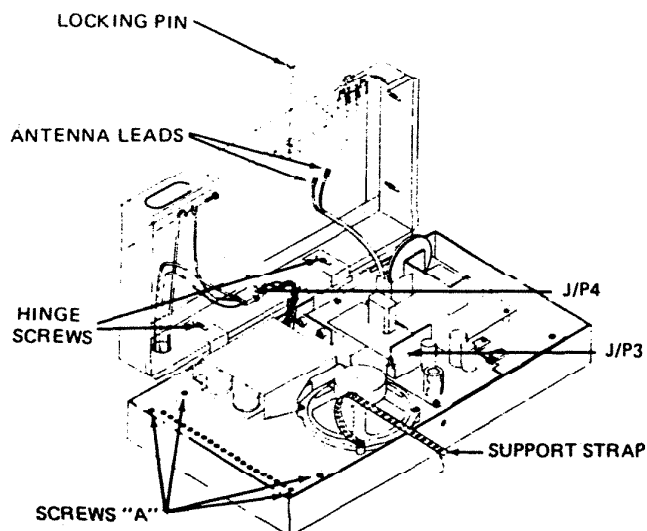

FIGURE 17: IM-406 MASTER IN IR-10 ROUGH-IN
REMOVING MASTER UNIT FROM ROUGH-IN HOUSING (Figure 17 & 18)
- (6.1) Original Production Units, Figure 17 (omit step (6.2) below): Remove screws holding the fixed leaf of each hinge in the rough in housing; unhook the support strap and remove unit.
- (1) Remove the I/P Speaker Controls' three-twisted-pair cable from their respective terminals. The Red and Red/W wires of each cable should be labelled so that they can be reconnected to their respective terminals.
- (2) Remove the Door Speaker wiring and the Chime/Alarm wiring from their respective terminals. Label these wires so that they can be reconnected to their respective terminals.
- (3) The Terminal Board may be replaced with the Master Unit supported in-place, in a horizontal position – with the support strap or when the Unit is completely removed from the rough-in housing.
- (4) Disconnect the Terminal Board from Amplifier/Power Supply Module, i.e. P3 from J3.
- (5) Remove the Terminal Board's four Phillips head mounting screws ("A" Figure 17) and lift Terminal Board out of cabinet.
- (6) Install new Terminal Board, make certain that black guards are over switches and that the switches move freely. Secure in place the four screws removed in step (5) above.
- (7) Connect wiring assembly, P3 to J3.
- (8) Connect the door speaker wiring; alarm/chime wiring; and I/P Speaker Control cables. Follow original hook up. See labelling used in steps (1) and (2) above.